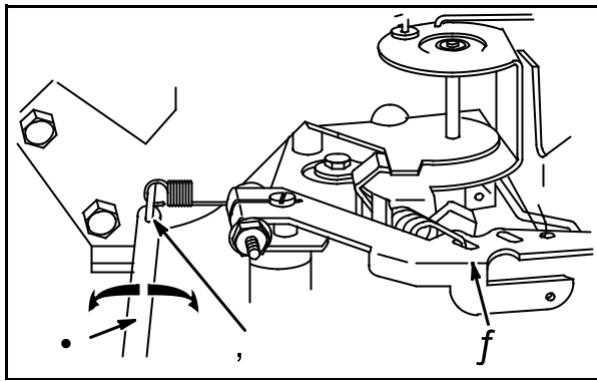

Fig. 32
Governor spring is installed in #1 hole (3) in governor lever, **Fig. 32**.